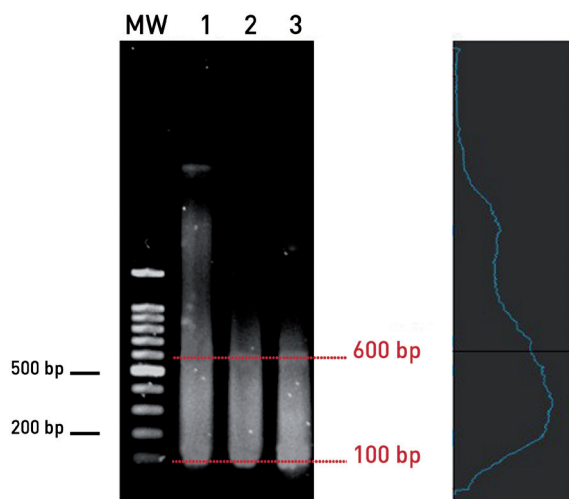

Figure 2: Efficient chromatin shearing with the Bioruptor® PLUS using small sonication volumes (50 μ l)
- From 50 – 100 µl: 0.5/0.65 ml tube holder for Bioruptor® Standard, Bioruptor® Plus and the corresponding shearing tubes (Cat. No. WA-005-0500) (Figure 2).